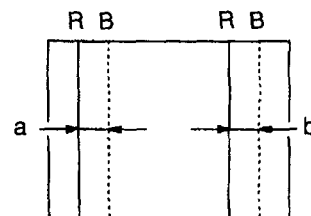

Fig. 3-8
5. Adjust the H TILT (RV1701) so that RED and BLUE, as shown in Fig. 3-8, become $a=b$.